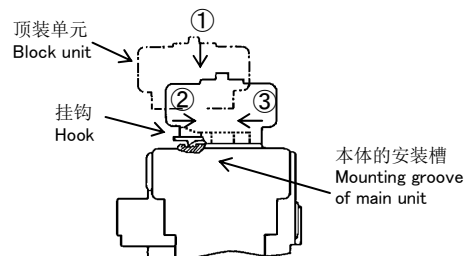

Fig.1
(1) 顶部安装类型 (Fig. 1)
- 安装时将顶面安装单元从方向①压入本体，顶面安装单元的挂钩向方向②移动，直至挂住本体的安装槽为止。安装后，按下顶面安装单元的滑块，确认其是否可以顺利地动作。
- 拆卸时，用手指提起顶装单元的挂钩，沿方向③移动。
(1) Front mounting type (Fig. 1)
- When mounting, attach the block unit to the main unit in the direction of ①, and move it in the direction of ② until the hook of the block unit is caught in the mounting groove of the main unit. After mounting, press the moving section of the block unit to ensure that the block unit moves smoothly.
- To remove the block unit, pull up the hook and move it in the direction of ③.